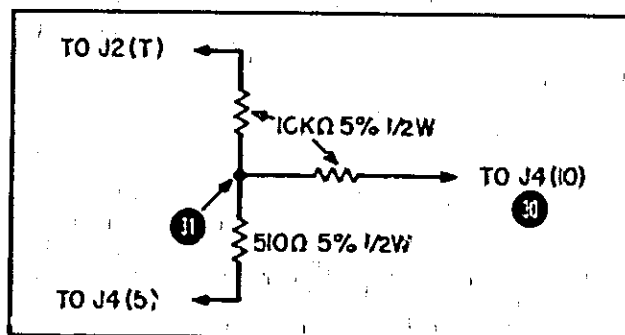

Figure 5-6. Resistance Network for Checks
b. Connect resistance network as shown in Fig. 5-6.